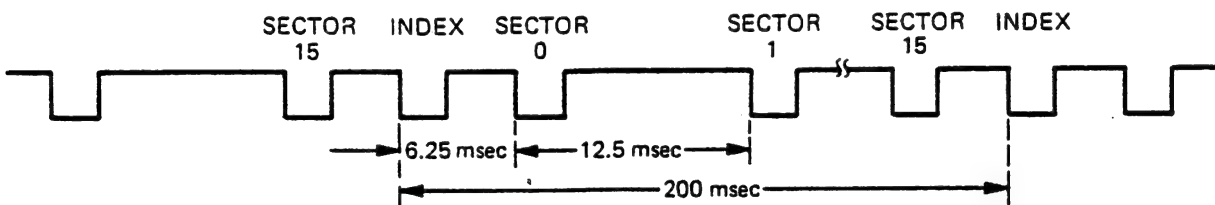

Figure 2-7. Index/Sector Timing
2.4.2.2 Index/Sector. For soft sector operation using a single hole media, this line transmits a reference pulse once every revolution indicating the beginning of a track. For hard sector operation using multi-hole media, this line transmits Index/Sector pulses where Sector pulses indicate the beginning of a sector. Pulse width for both Index and Sector is 4 ± 1.5 milliseconds. Two sets of photosensors are located on Model 82 assembly enabling either side of the diskette to be recorded. Figure 2-7 shows the Index/Sector timing.